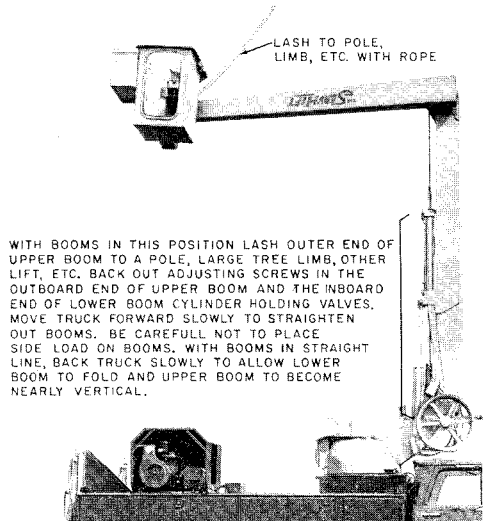

Fig. 13—Emergency Method of Lowering Booms—Lower Boom Vertical—Upper Boom Past Top Center
- (c) If the booms are in the positions shown in Fig. 13, a rope must be secured to a firm overhead support.